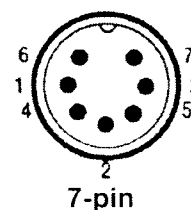

Figure 1
4. **Control test:** Disconnect the 7-pin socket N°5 from the power unit. See Appendix 1, page 2-4. Measure the resistance between terminals 1 and 2 (see figure 1) with an ohmmeter (see Appendix 2).